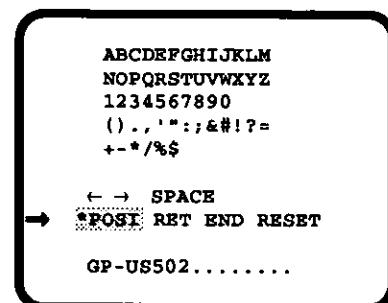

Fig.20.
- Move the character cursor to the "POSI" position by using the Item Button (ITEM), the Left Button (<) or the Right Button (>) and press the Page Button (PAGE) to display the Camera Identification (CAMERA ID) position menu as shown in Fig.20 and the characters of the Camera ID starts blinking to identify the positioning menu for the operator.